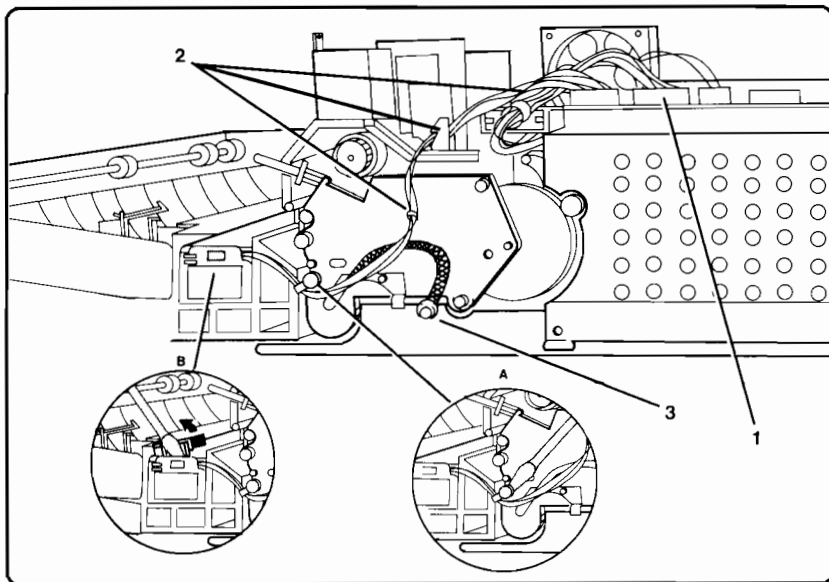

Figure 6-76. Paper Path Door Removal
5. Unplug connector J209 from the DC Controller (see Figure 6-76, callout 1) and remove the cable from its clamping brackets (see Figure 6-76, callout 2).
6. Remove the screw (1) securing the grounding cable (see Figure 6-76, callout 3).
7. Unclamp the Cable Clamp using a small flat-head screwdriver and remove the cable (see Figure 6-76, detail A).
8. Open the Paper Path Door and remove the cable Retaining Bracket using a small flat-head screwdriver (Figure 6-76, detail B), and remove the cable from its trough.